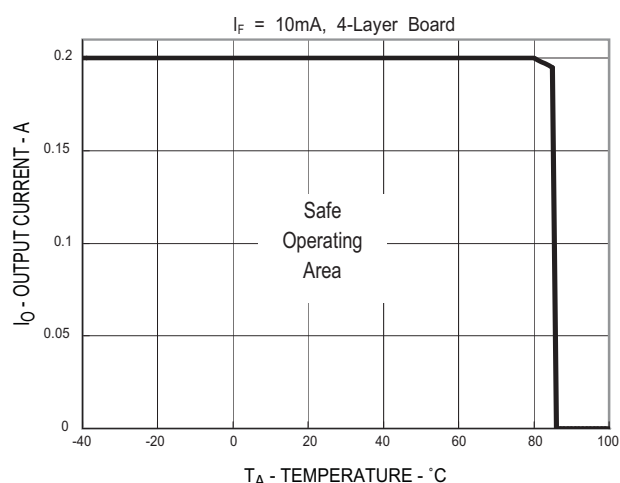

Figure 1. Maximum Output Current Rating vs Ambient Temperature (ASSR-1218-003E)
1. For derating, refer to Figure 1, 2, 3 and 4.
Figure 1, 2, 3 and 4 specify the maximum average output current allowable for a given ambient temperature. The maximum allowable output current and power dissipation are related by the expression $R_{ss} = P_o(\text{max}) / (I_o(\text{max}))^2$ from which R_{ss} can be calculated. Staying within the safe area assures that the steady state MOSFET junction temperature remains less than 125°C .